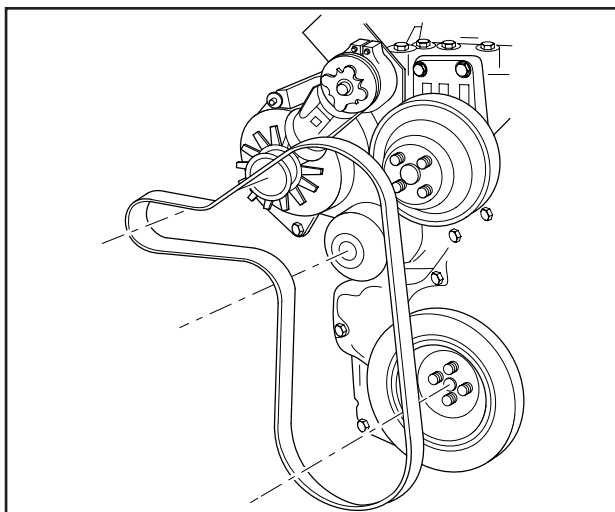

FIGURE 4-14. DRIVE BELT
2. Install the drive belt as shown in Figure 4-14.